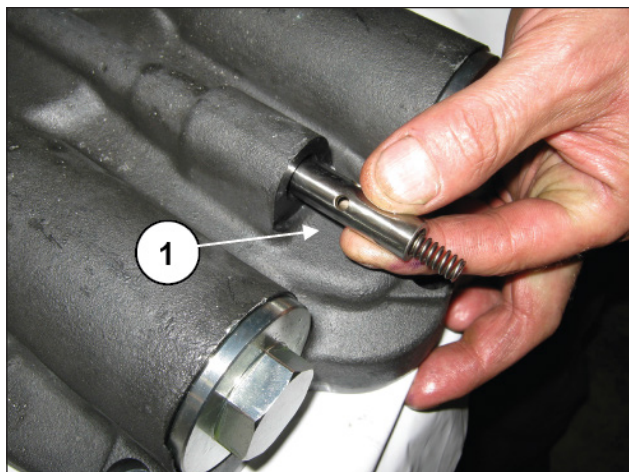
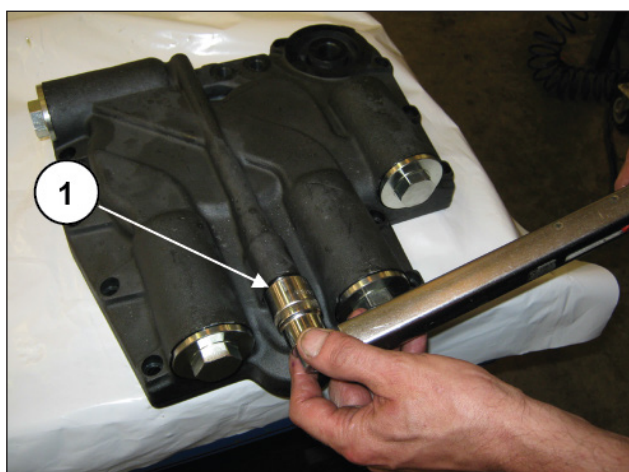

Fig. 149
Fig. 150
Insert the pressure relief valve with related spring (pos. ①, Fig. 149) and tighten the M14 plug (pos. ①, Fig. 150) then tighten with a torque wrench to the value prescribed in heading 3.